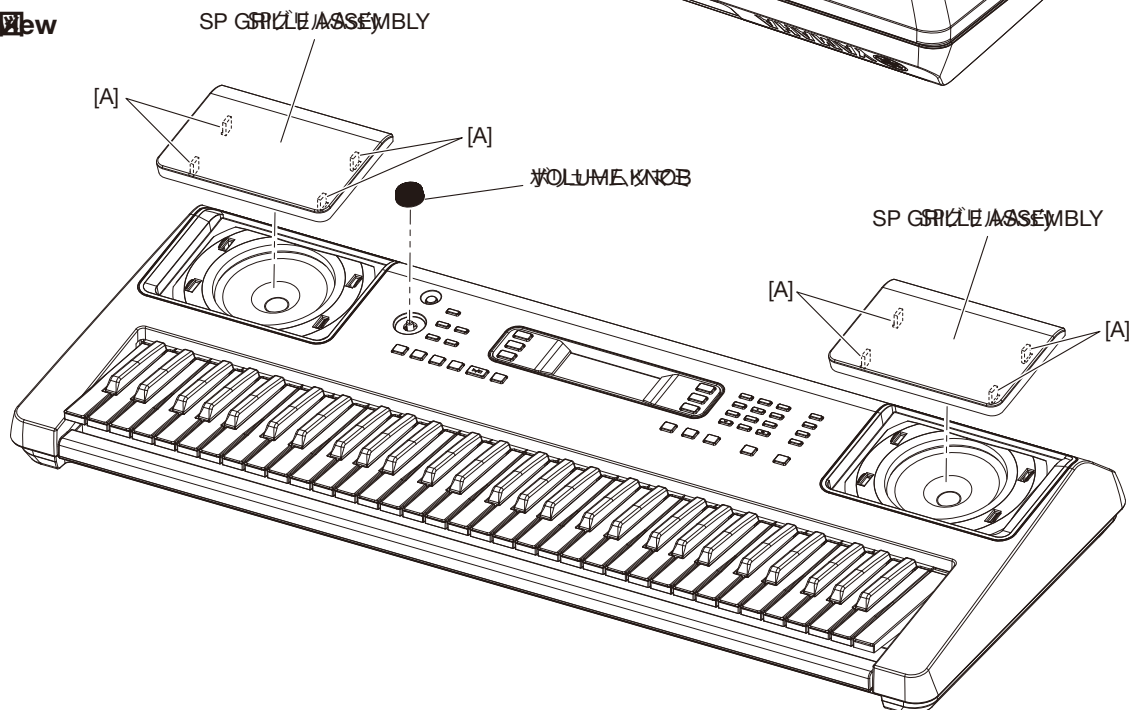
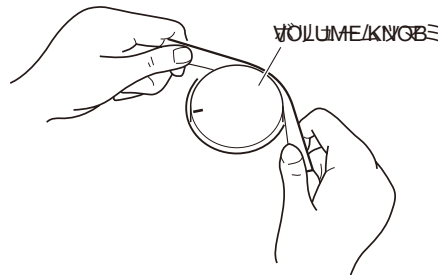

Fig.1
Fig.4
1. Remove the 5 screws marked [120] and the 9 screws marked [100]. The lower case assembly can then be removed. (Fig.1)
* When installing the lower case assembly, first tighten the screw marked [100A] and then the remaining screws. (Fig.1)
3. Remove the knob from the control panel surface. (Fig.1, Fig.4)
2. Release the 4 claws marked [A] of the SP grille. The SP grille can then be removed. (Fig.1)
3. Flip over the lower case assembly, and remove the battery cover assembly. (Fig.1)